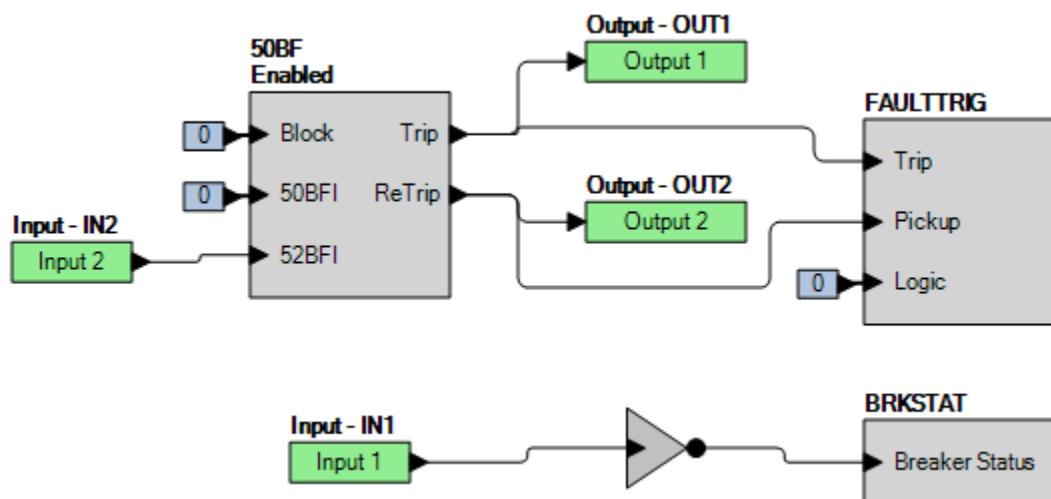

Figure 63-1. BESTlogicPlus Settings (BFI52 Contact Initiate)
Step 2: Use BESTCOMSP*lus* to configure the BESTlogic*Plus* programmable logic shown in Figure 63-1.